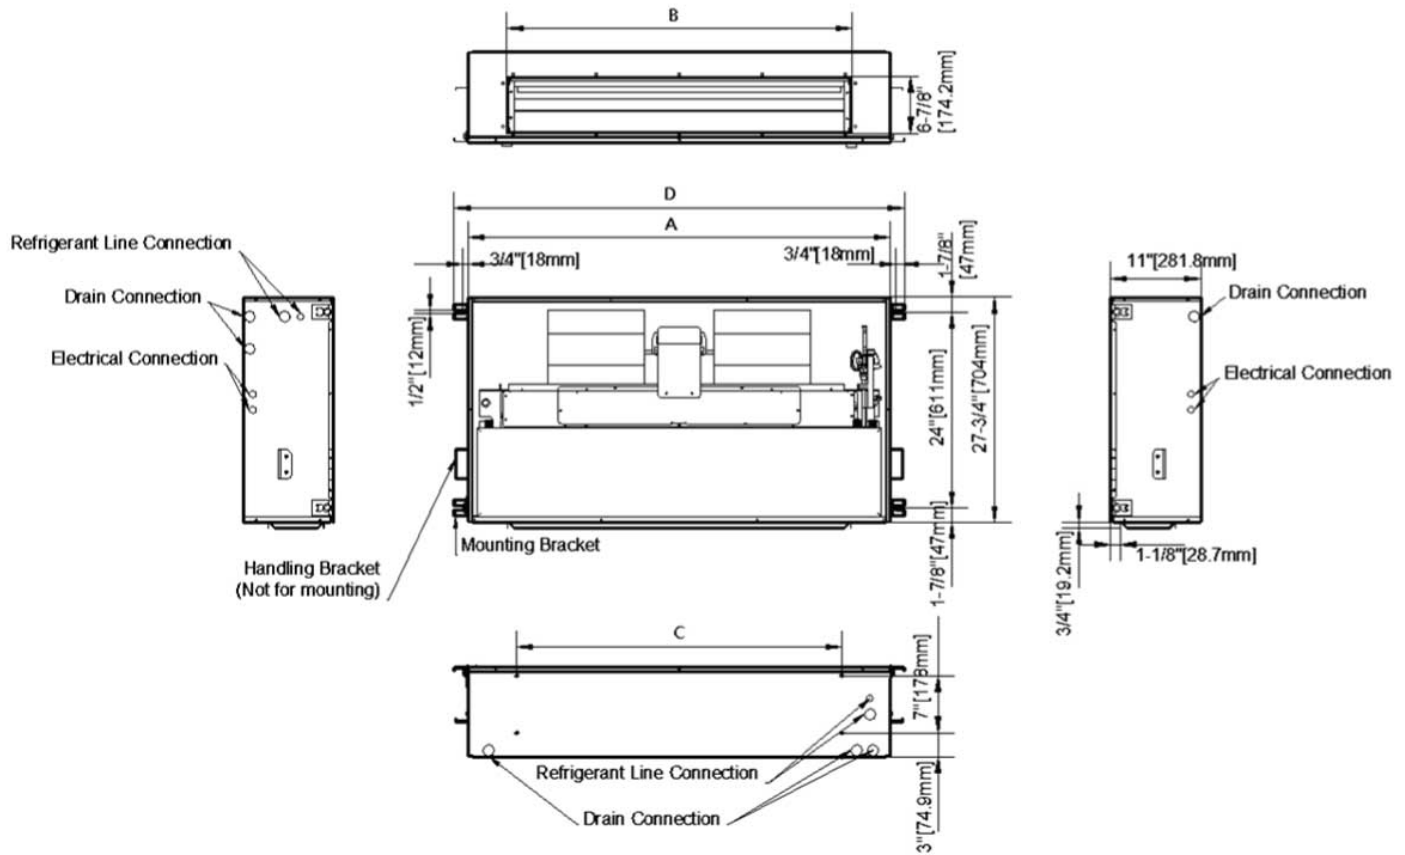
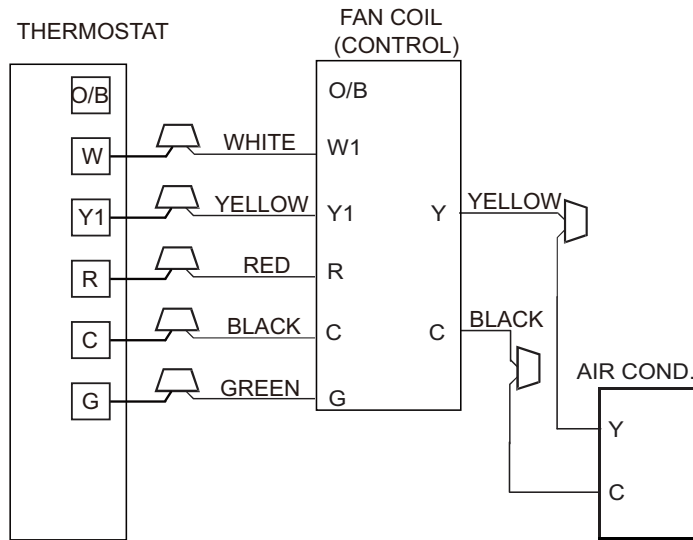
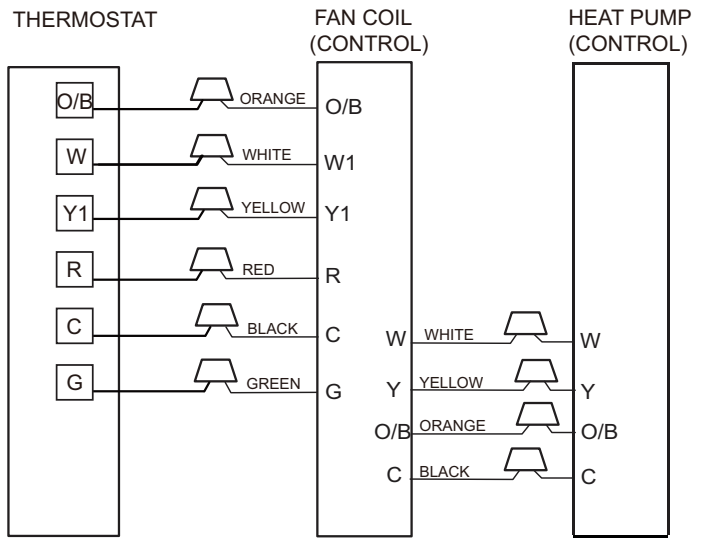

Fig. 2 – Dimensional Drawing
Fig. 4 – Wiring Layout Air Conditioning Unit (Cooling and 1-Stage Heat)
Fig. 5 – Wiring Layout Heat Pump Unit (Cooling and 2-Stage Heat)
Condensate pan has primary and secondary drain connections to meet FHA requirements (Fig. 2). These connections have 3/4" (19 mm) male pipe threads. Tubing for all condensate drains should be a minimum of 7/8" (22 mm) OD. Drain lines from condensate pan to exterior of unit must be plastic pipe. Drain should be pitched downward at a slope of 1" per 10 feet (25 mm per 3 m). If coil is located in or above a living space where damage may result from condensate overflow, a separate 3/4" (19 mm) drain must be provided from secondary drain connection. Run this drain to a place in compliance with local installation codes where it will be noticed when unit is operational.
See Fig. 4, and Fig. 5 for field low-voltage wiring See Fig. 2 for location of the electrical inlets. For maximum ampacity and over-current protection, see unit rating plate or product data sheet.
5. Connect low-voltage leads to thermostat and outdoor unit. See Fig. 4, and Fig. 5 as well as the outdoor unit wiring label.